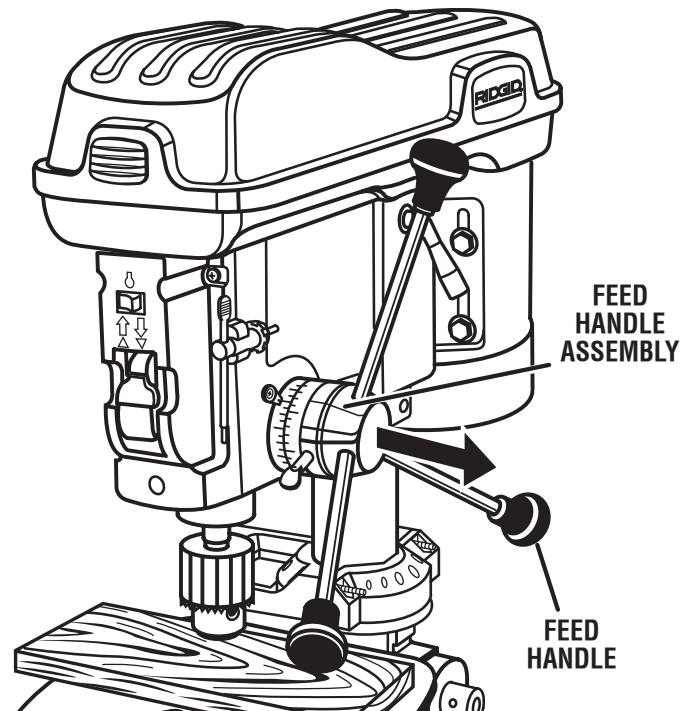

Fig. 24
- Slide the feed handle assembly out from the right side of the head. See Figure 24.